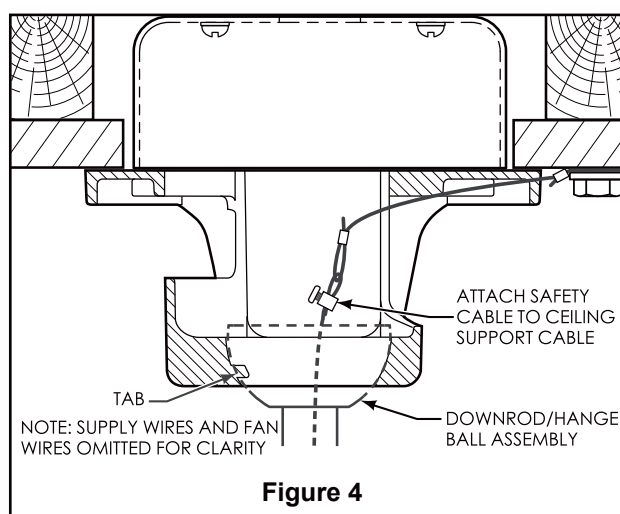

Figure 4
- ☐ 4. Carefully lift the fan and seat the downrod/hanger ball assembly on the hanger bracket that was just attached to the outlet box. Be sure the groove in the ball is lined up with tab on the hanger bracket (Figure 4)
- ☐ 5. Attach the safety cable to ceiling support cable. Slide cable clamp and washer onto safety cable (from fan). Place the end of cable through the loop of ceiling support cable. Pull as much cable through loop as possible. Feed end of cable into clamp hole and firmly tighten screw (Figure 4).